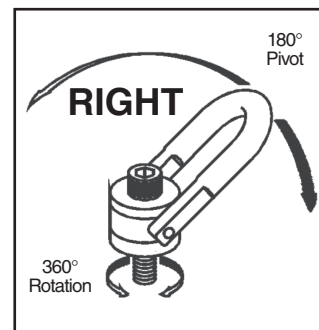

Figure 4
- Always ensure free movement of bail. The bail should pivot 180 degrees and swivel 360 degrees (Fig. 4).